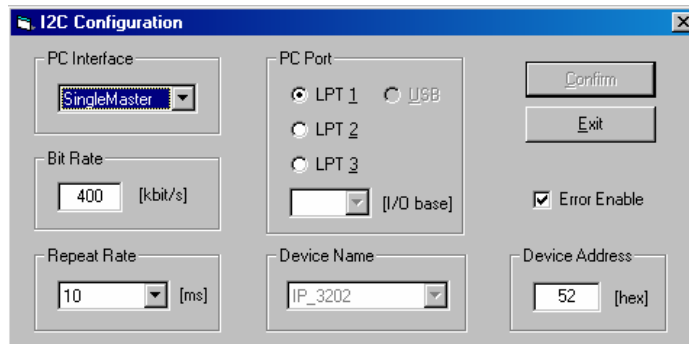

Figure2: I2C Configuration
- 3- Under "Settings Menu", set the I2C configurations as it is seen in figure2; press "Confirm" and close this window.